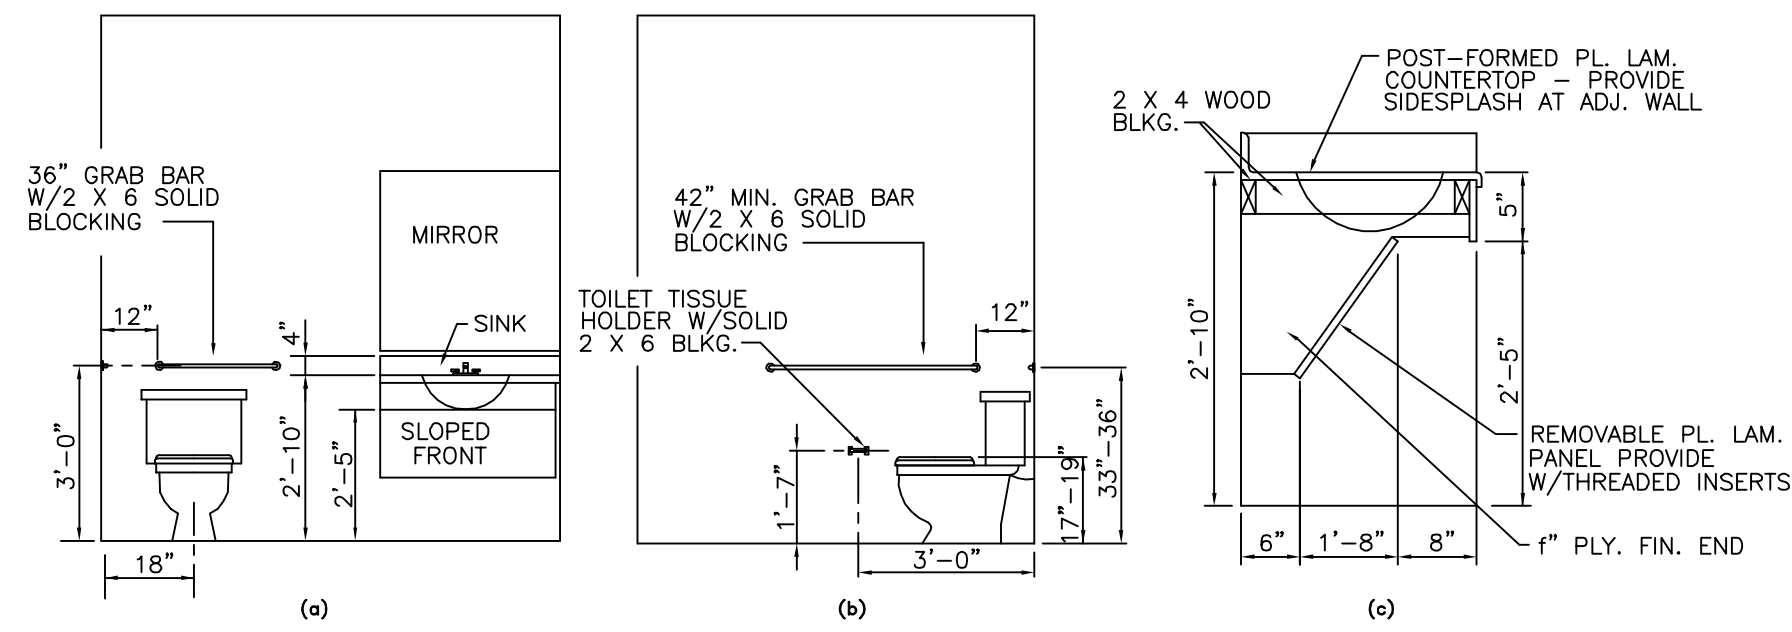

FIG. 31
- 4.16.3\* HEIGHT.** THE HEIGHT OF WATER CLOSETS SHALL BE 17" TO 19" (430mm TO 485mm), MEASURED TO THE TOP OF THE TOILET SEAT. SEATS SHALL NOT BE SPRUNG TO RETURN TO A LIFTED POSITION (SEE FIG. 31).
- 4.16.4\* GRAB BARS.** GRAB BARS FOR WATER CLOSETS NOT LOCATED IN STALL SHALL COMPLY WITH 4.26 AND FIG. 31. THE GRAB BAR BEHIND THE WATER CLOSET SHALL BE 36" (915mm) MINIMUM.
**4.17.6 GRAB BARS.** GRAB BARS MAY BE MOUNTED WITH ANY DESIRED METHOD AS LONG AS THEY HAVE A GRIPPING SURFACE AT THE LOCATIONS SHOWN IN FIG. 31 AND DO NOT OBSTRUCT THE REQUIRED CLEAR FLOOR AREA. GRAB BARS SHALL COMPLY WITH 4.26.
- 4.19.2 HEIGHT & CLEARANCES.** LAVATORIES SHALL BE MOUNTED WITH THE RIM OR COUNTER SURFACE NO HIGHER THAN 34" (865mm) ABOVE THE FINISH FLOOR. PROVIDE A CLEARANCE OF AT LEAST 29" (735mm) ABOVE THE FINISH FLOOR TO THE BOTTOM OF THE APRON (SEE FIG. 31).
**4.19.6\* MIRRORS.** MIRRORS SHALL BE MOUNTED WITH THE BOTTOM EDGE OF THE REFLECTING SURFACE NO HIGHER THAN 40" (1015mm) ABOVE THE FINISH FLOOR (SEE FIG. 31).
- 4.24.2 HEIGHT.** SINKS SHALL BE MOUNTED WITH THE COUNTER OR RIM NO HIGHER THAN 34" (865mm) FROM THE FINISHED FLOOR (SEE FIG. 31).